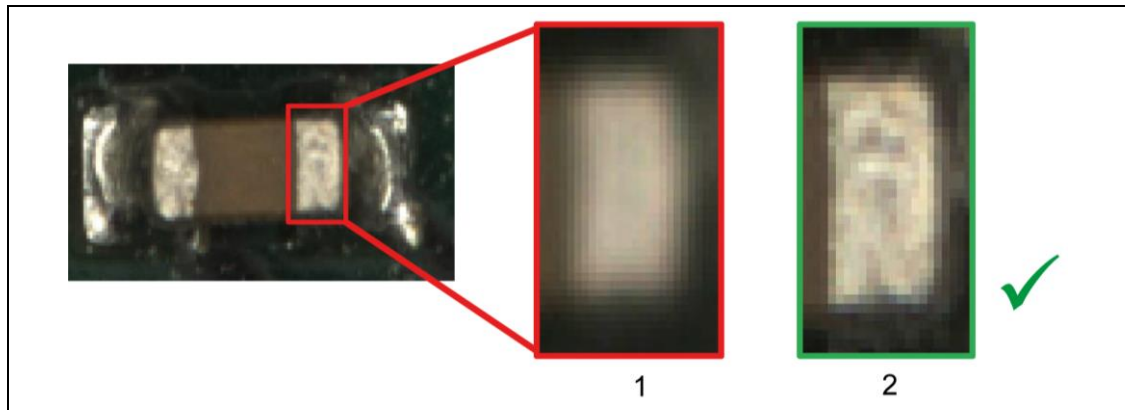

Fig. 10: Example of a blurred image and a sharp image
- Acquiring a sharp image will ensure that the visible structures in the left and in the right image have the best contrast possible. Sharp images of suitable surfaces will show a visible difference in the color or brightness of neighboring pixels. Thus, pattern matching can be performed reliably and accurately (see Fig. 10, p. 30).